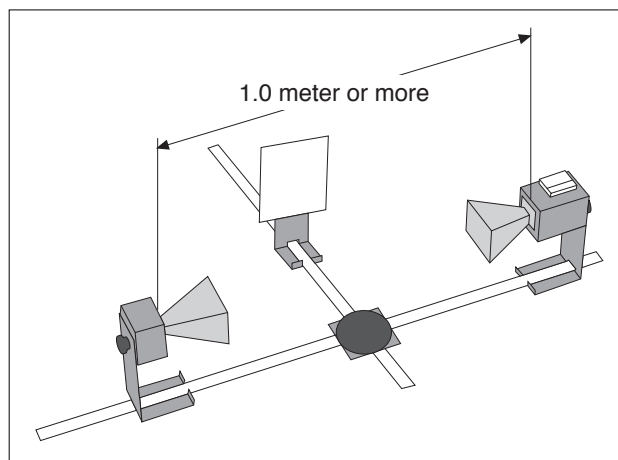
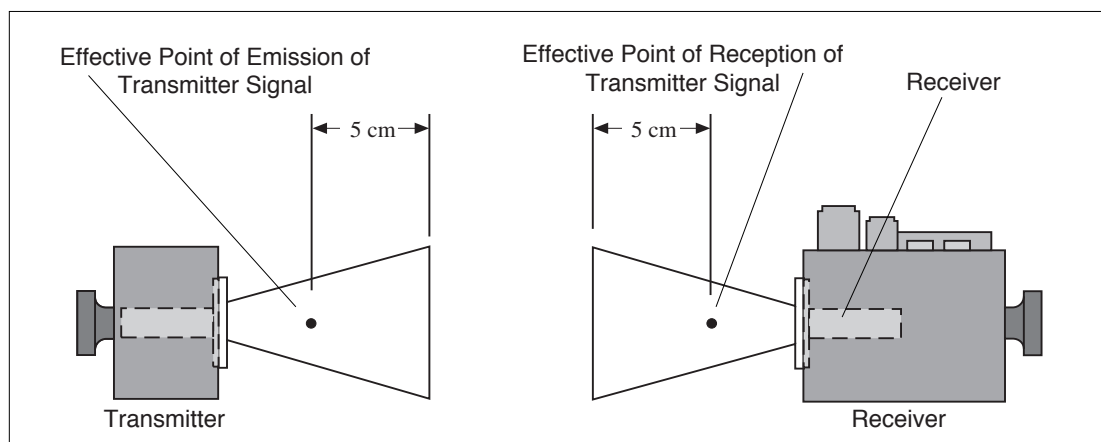

Figure 7.2 Equipment Setup
Figure 7.3 Transmission and Reception Points
- ① Arrange the equipment as shown in Figure 7.2. For best results, the Transmitter and Receiver should be as far apart as possible. Be sure the Receiver and Transmitter are equidistant ( $d_1$ ) from the center of the Goniometer degree plate and that the horns are directly facing each other. (See Figure 7.3 for location of effective points of transmission and reception). Also be sure that the surface of the Reflector is parallel to the axis of the Transmitter and Receiver horns.
- ② While watching the meter on the Receiver, slowly slide the Reflector away from the Degree Plate. Notice how the meter reading passes through a series of minima and maxima.
- ③ Find the Reflector position closest to the degree plate which produces a minimum meter reading.
- ④ Measure and record  $h_1$ , the distance between the center of the degree plate and the surface of the Reflector.